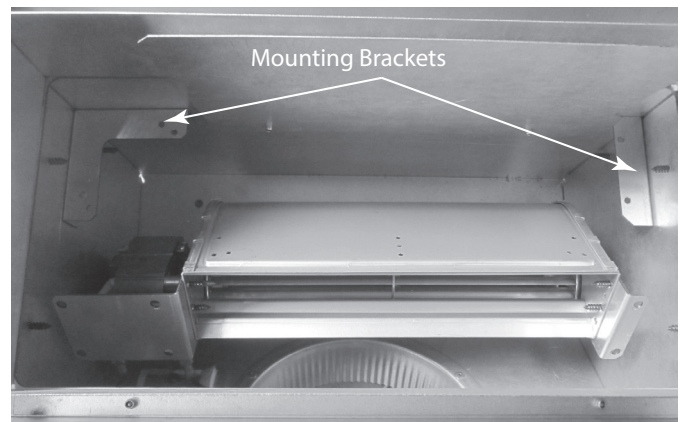

Figure 7
- Attach the (2) wires to the spade terminals on the fan motor.
- Tilt the fan forward to clear the mounting brackets then lift the fan onto the brackets. See Figure 7.